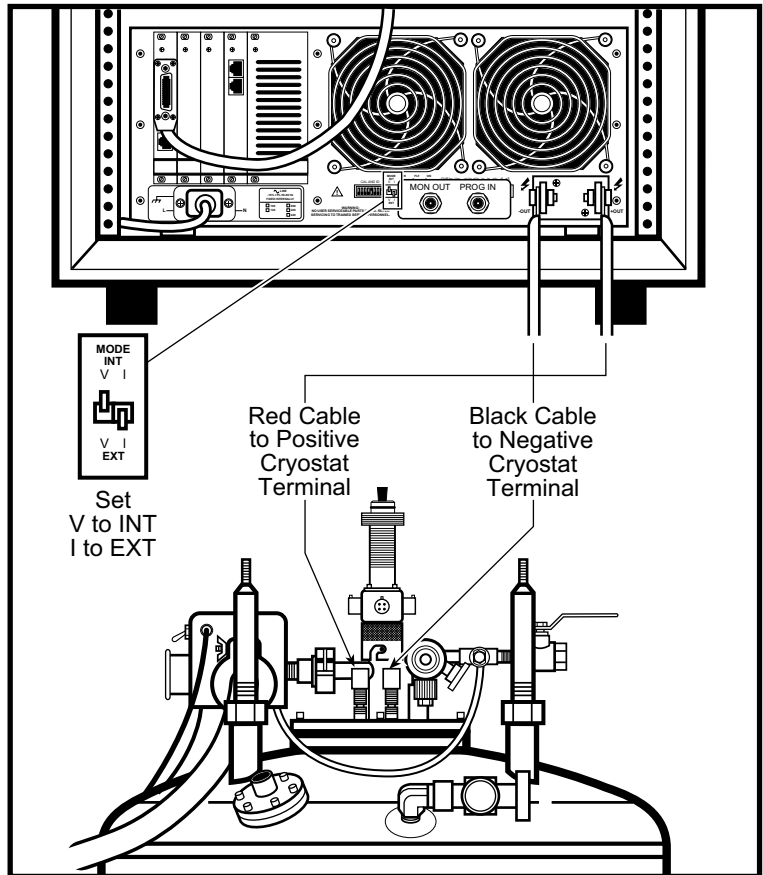

Figure 3-11 Connecting MPS to Superconducting Magnet Terminals
20. Connect the Magnet Power Supply (MPS) Terminal Cables to the MPS terminals. Red = positive, Black = negative. Connect the other ends to the magnet terminals on top of the cryostat (Figure 3-11). Just to the left of the MON OUT port are two small switches labeled V and I (voltage and current). Set V to INT and I to EXT. Turn on the MPS.